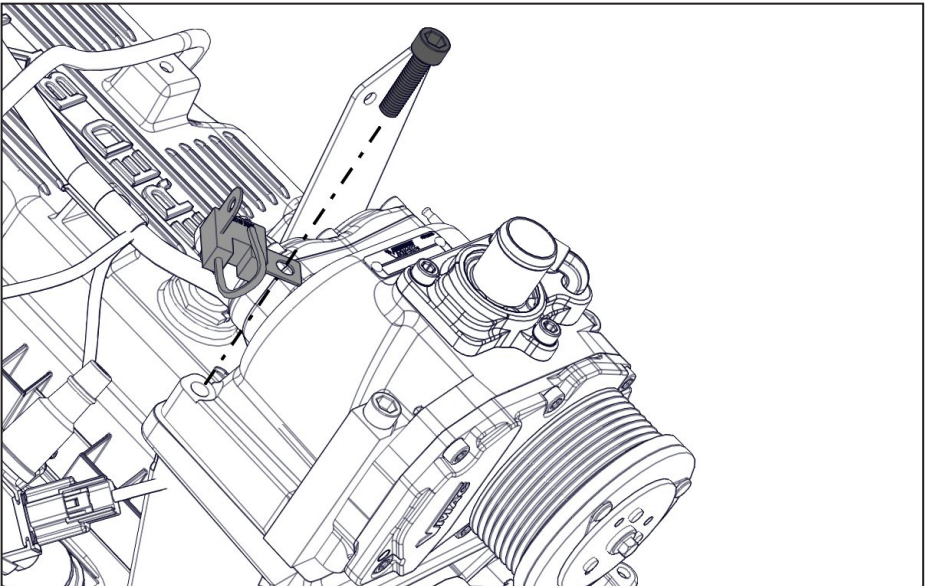

Figure 22 — Install RIS
- Install the RIS with the M8 × 1.25 × 35 mm rear compressor fastener (Figure 22).